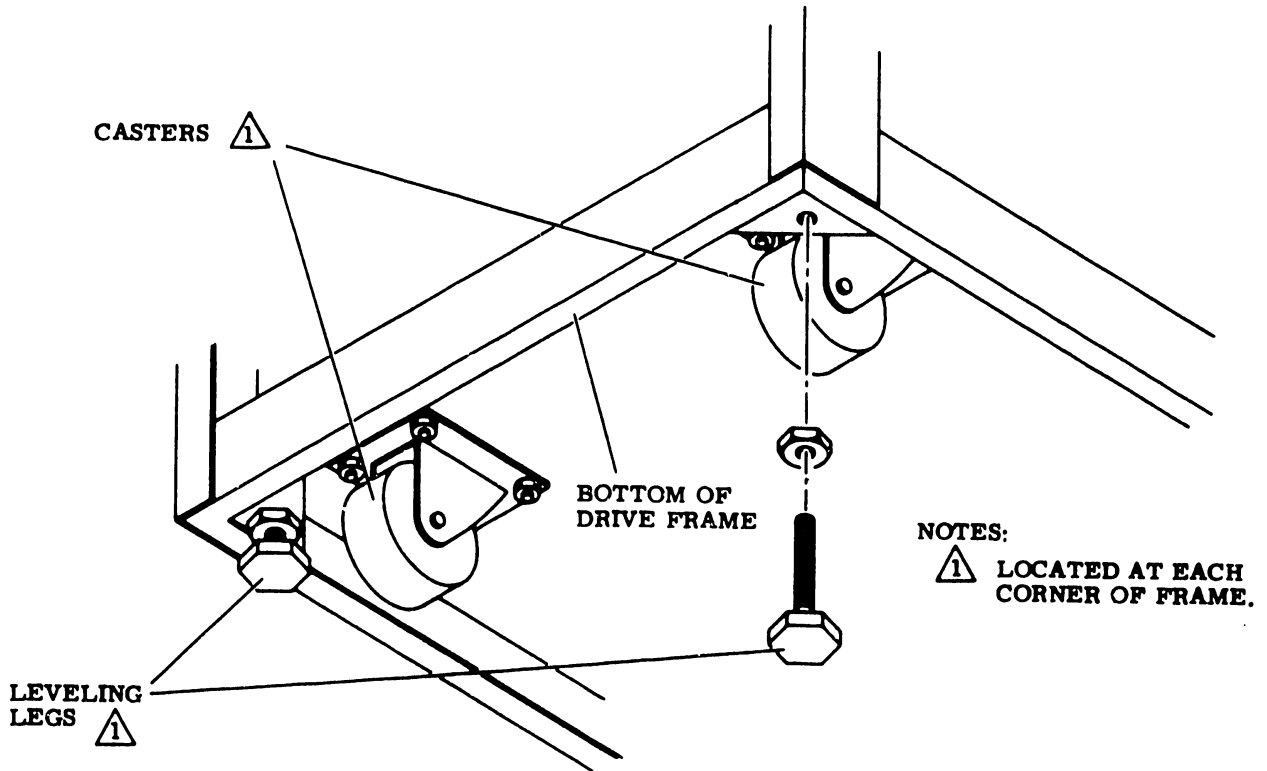

FIGURE 4-2 LEVELING PAD INSTALLATION
- A. Install a jam nut on each leveling pad and install a leveling pad at each corner of the cabinet frame (see Figure 4-2) by raising the corners of the cabinet and threading the pads into the corresponding weld nuts on the frame.